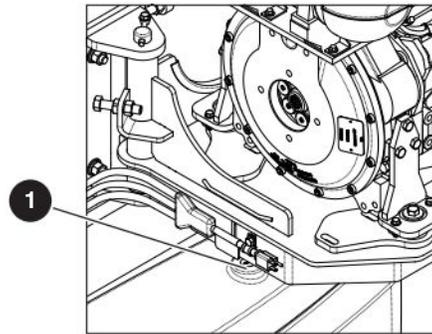

Figure 24 Heater plug
- Refer to the cold weather operation chart (Figure 24) to assist in operating the MEWP in cold weather conditions.